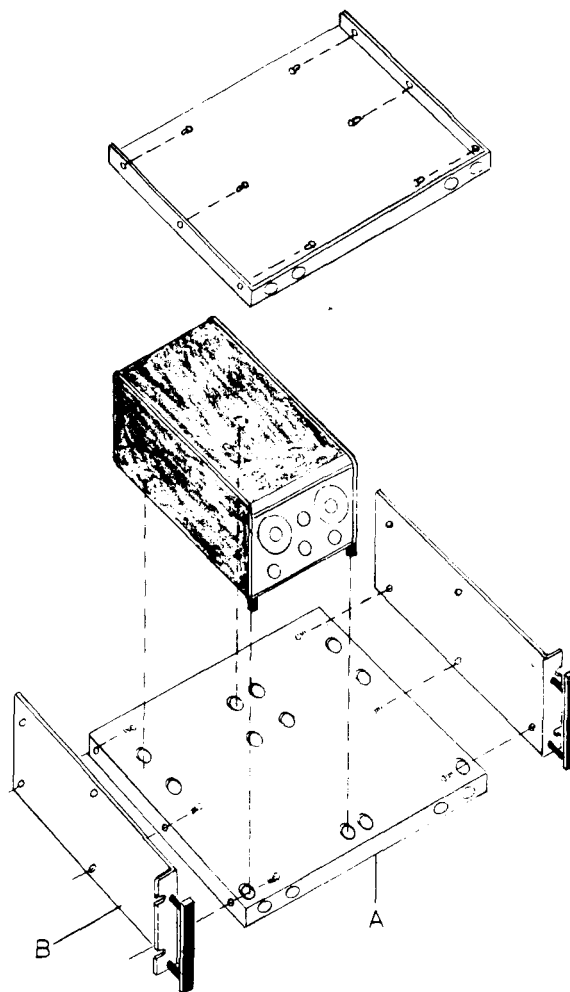

Figure 2-2. K-104 Rack Mounting
- d. Rack Mount Kit – K104. Mounts one or two instruments in a 7 inch space. See Figure 2-2.
2.1.5 K-104 Rack Mounting Kit (Refer to Figure 2-2)